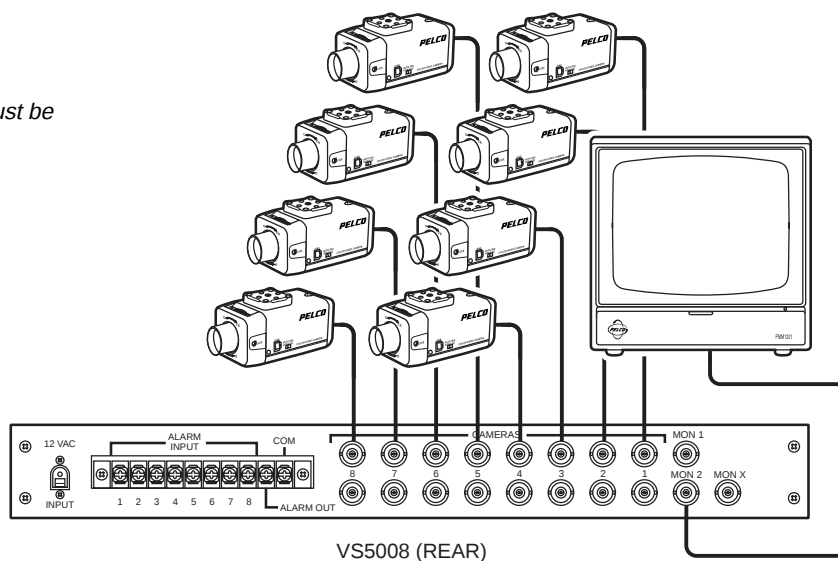

Figure 3. Terminating Configuration—One Monitor
4. Make all equipment connections to the VS5008. If the system configuration utilizes only one monitor, the monitor must be connected to the MON 2 output to allow sequencing or to display an individual channel. Refer to Figures 3 through 6 for system configurations. If you are using the VS5008 with a Coaxitron transmitter (model MPT9000CZ or MPT9000PZ), follow the configuration shown in Figure 7.